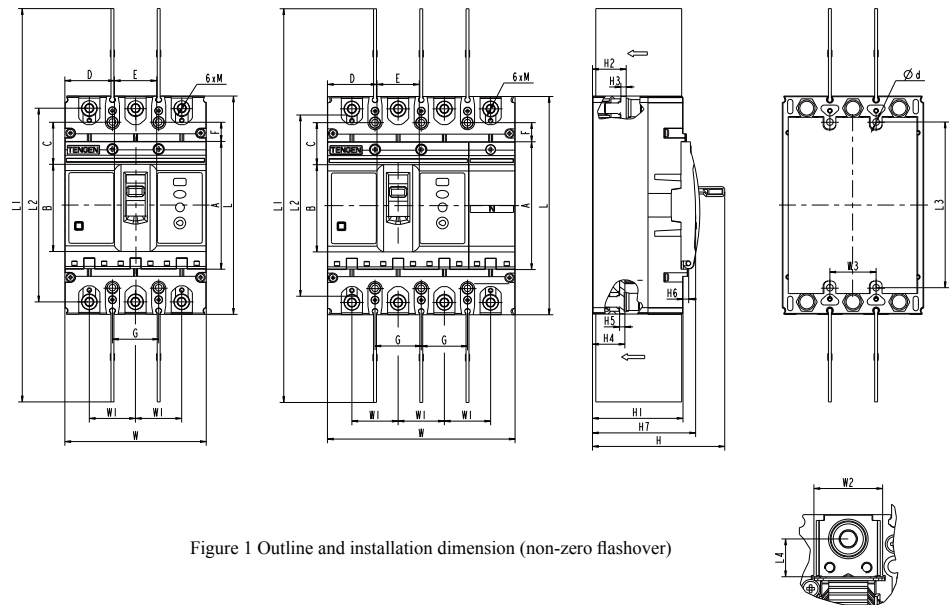

Figure 1 Outline and installation dimension (non-zero flashover)
8.1 Outline dimension and installation dimension (Table 9, Figure 1 and Figure 2)